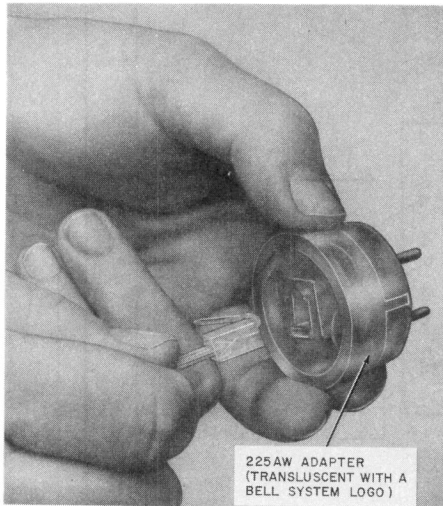

Fig. 1—225AW Adapter
**1.02** This section is reissued to revise Fig. 1, 2, 3, 4, and 6 to indicate new Bell System Logo.
**2.01 USOC RJA1X:** This arrangement uses a translucent 225AW adapter (Fig. 1) with a Bell System Logo to provide physical compatibility between the modular plug on the CPE and an existing 4-prong jack such as a 548A or 549A (Fig. 4). Tip and ring are always connected through to the CPE. A and A1 or other leads will appear in the adapter if connected in the existing jack.